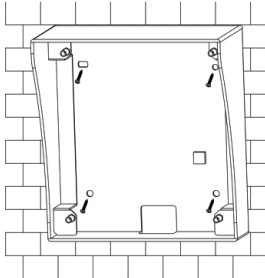

Figure 2-2
- Step 1** Install metal bracket into the groove on wall. At spot 1 fasten screw (ST3 x 18 Cross recessed countersunk head tail tapping screws --- galvanizing white), and fix metal bracket on wall. See Figure 2-2